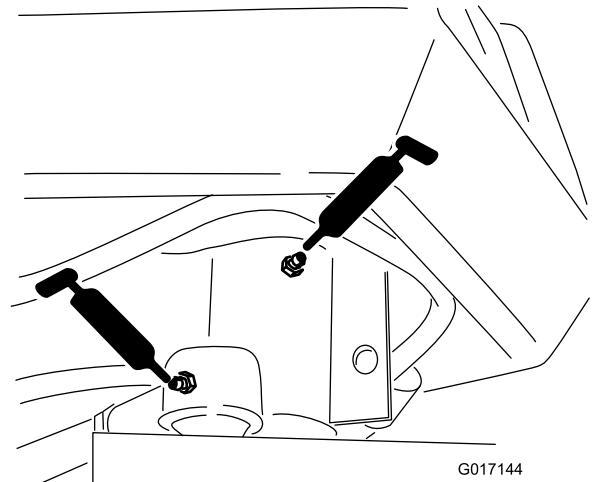

Figure 29
- Steering-fork shaft (1) (Figure 29)
- Steering-cylinder-rod end (Figure 29)